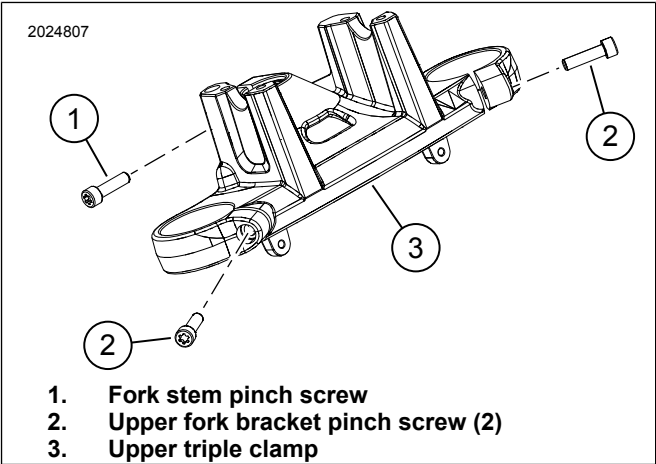

Figure 3. Recall Kit 0190
4. See Figure 3. Install **new** upper triple clamp (3) from recall kit. See service manual.
5. See Figure 3. Install screws (1, 2) from recall kit and tighten.